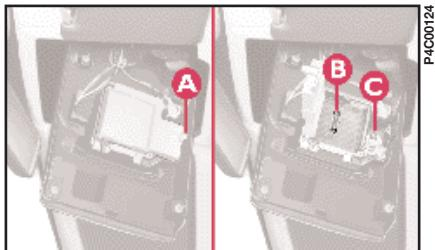

fig. 27
- 3) Press tab A (fig. 27) to open the bulb holder.